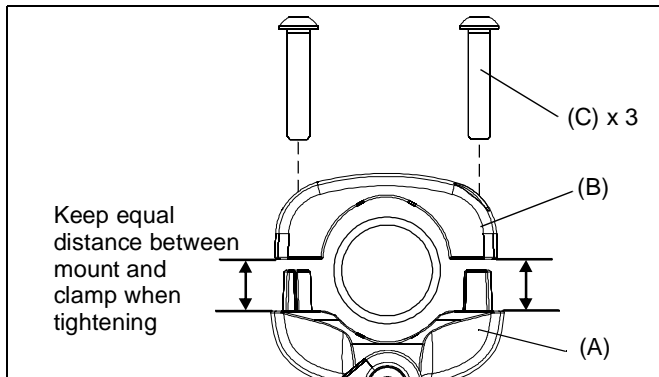

Figure 2
NOTE: Equally tighten screws (C) against clamp (B) and mount (A). (See Figure 2)